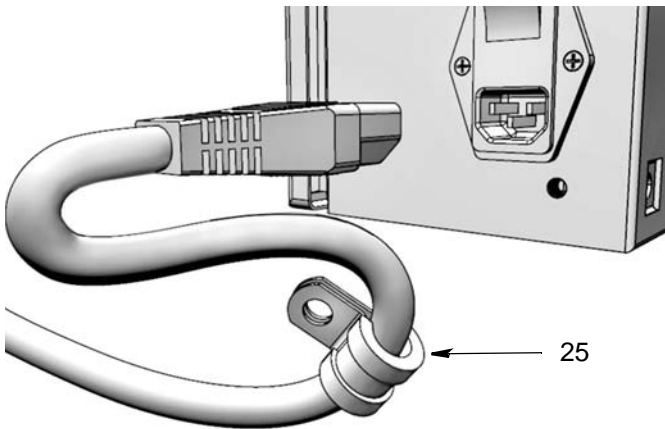

FIG. 22
NOTE: The clamp (25) should be installed close enough to the power cord plug end to prevent the plug from loosening itself from the connector (3a) when pulled; resulting in an interruption or loss of power to the controller. See FIG. 22.
4. Unplug the power cord plug (13) from connector (3a) (FIG. 22).